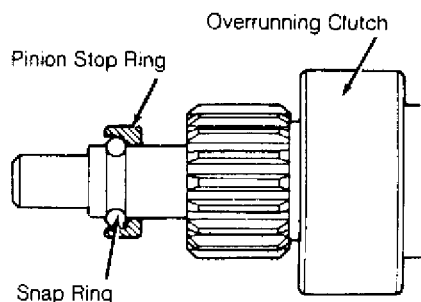

Fig. 5: Locating Snap Ring Under Pinion Stop Ring
4) To remove overrunning clutch, pull pinion stop ring in toward clutch side. Remove snap ring using Snap Ring Pliers (09900-06107). Remove pinion stop ring, and slide off overrunning clutch. See Fig. 5. On reduction type starter, remove circlip and pull planetary carrier shaft from center bearing and shock absorber assembly.